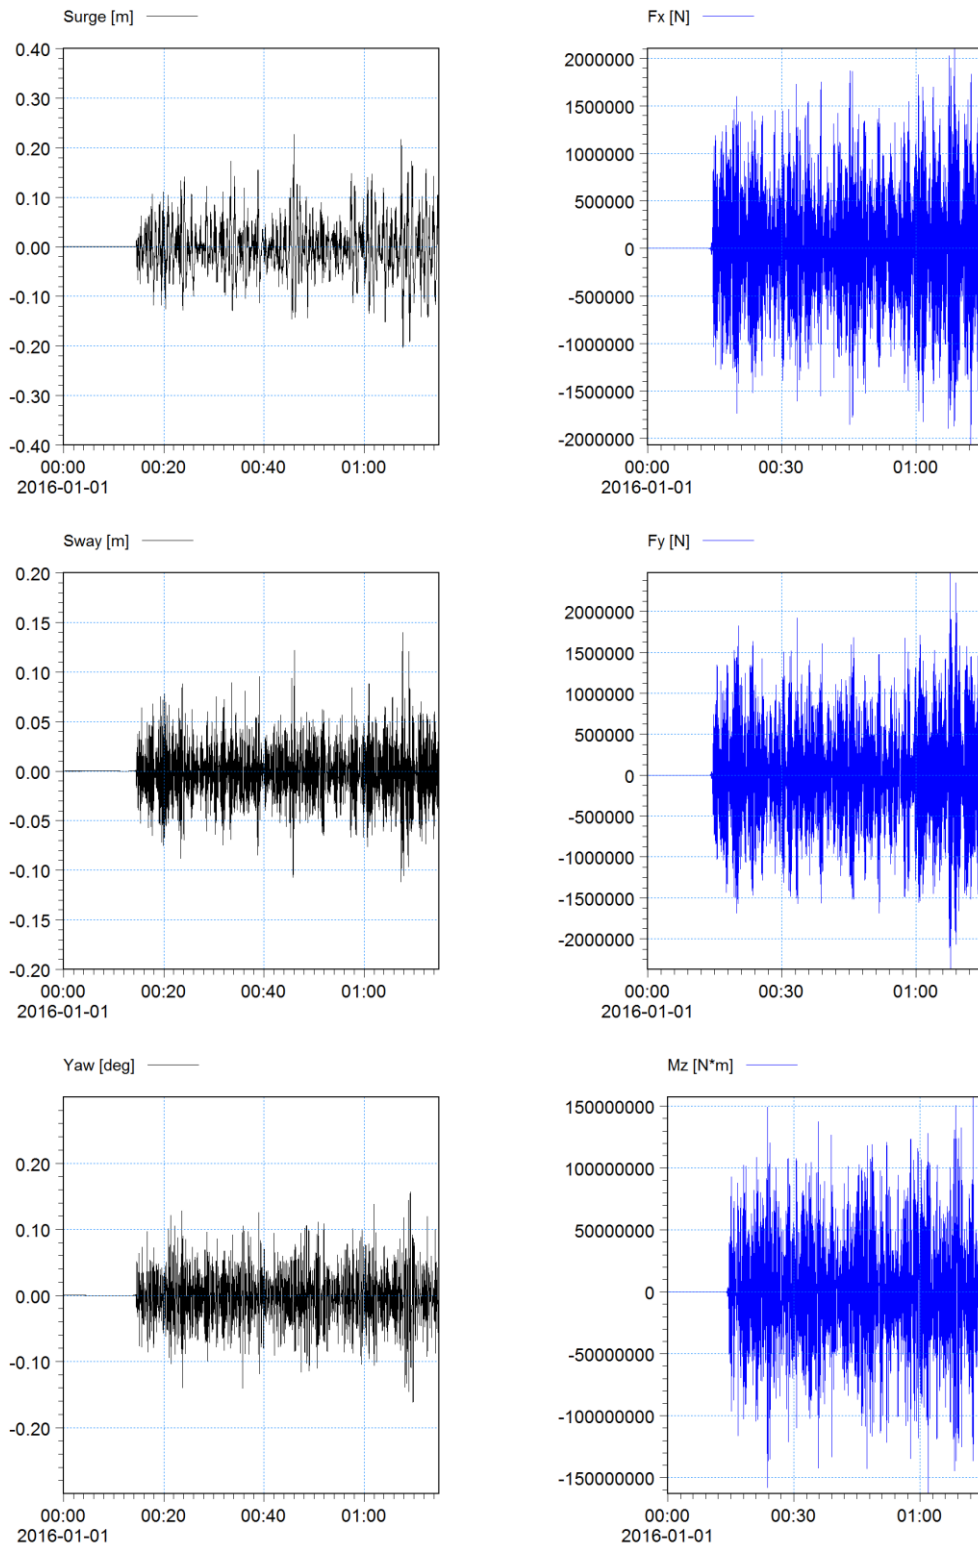

Figure 2.18 Time series of vessel motions and diffraction forces
8. Select item 1 – 'Surge'
10. Repeat the steps 6-10 for the remaining 5 windows and plot items: sway and yaw (from output file: DHI_Vessel_motions.dfs0) and Fx, Fy and Mz (from output file: DHI_Vessel_diff_forces.dfs0). The final plots are shown in Figure 2.18.